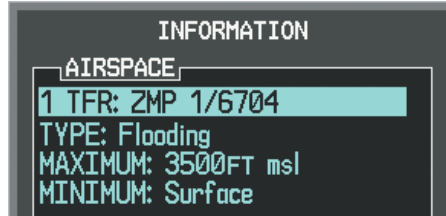

Figure 6-91 Full Text for Selected TFR
- 4) If necessary, turn the **FMS** Knob to select 'Review Airspaces' and press the **ENT** Key. The system displays the TFR Information window (Figure 6-91).